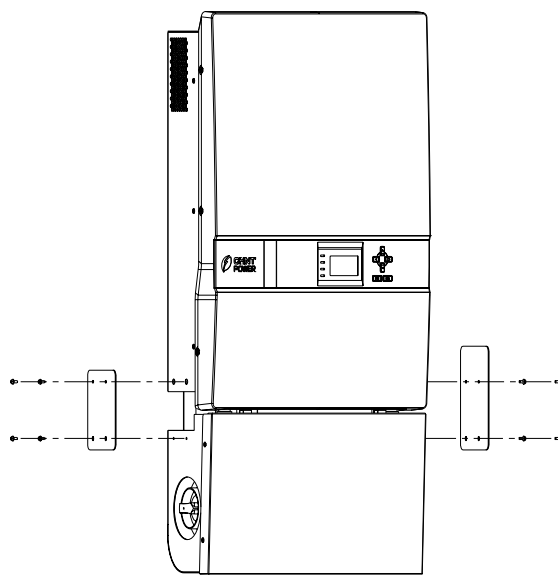

Figure 6-13 Securing panels on both sides
- (8) Put the two removed panels back and secure them on both sides as shown in Figure 6-13. (Tool: PH2 cross screwdriver)